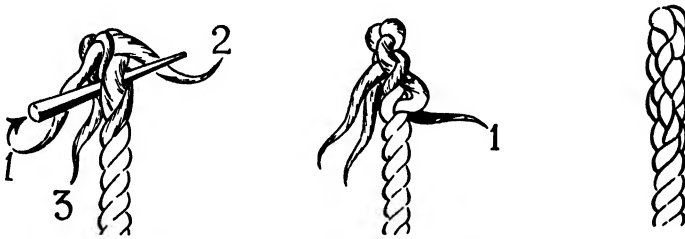

Fig. 8-4. The crown splice.
1. Place strand 1 over the first adjacent strand in the main part of the rope, and under the next strand (see Fig. 8-4).